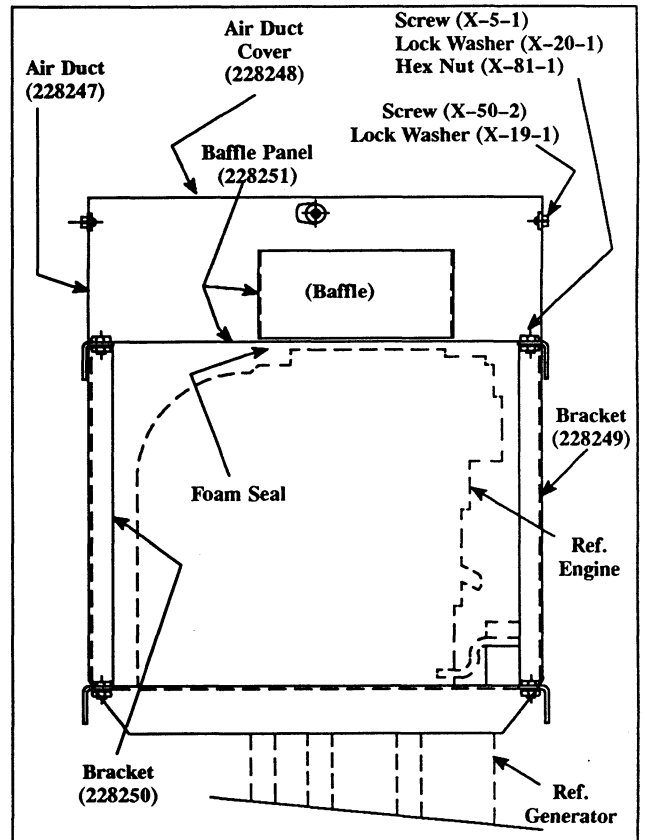

Figure 8-3. Air Duct Cover
Step 6. Position air duct cover (228248) on air duct assembly. See Figure 8-3. Align holes in cover with holes in air duct assembly and secure with seven screws (X-50-2) and lock washers (X-19-1).